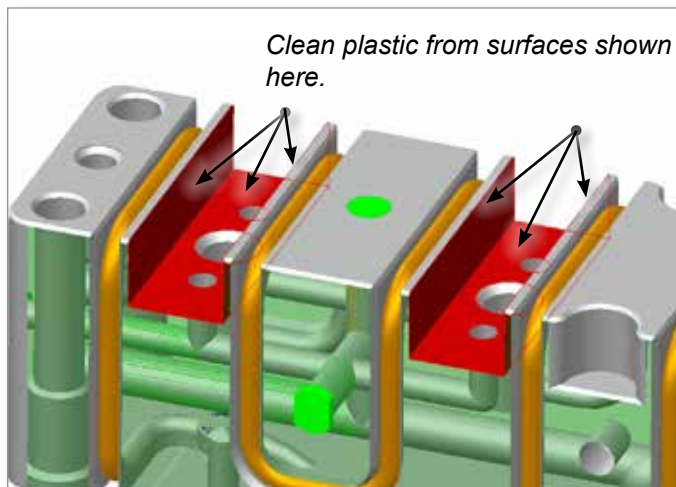

Figure 5-85 Remove plastic residue from surfaces
1. Clean any plastic residue from hot runner interface surfaces. See Figure 5-85.